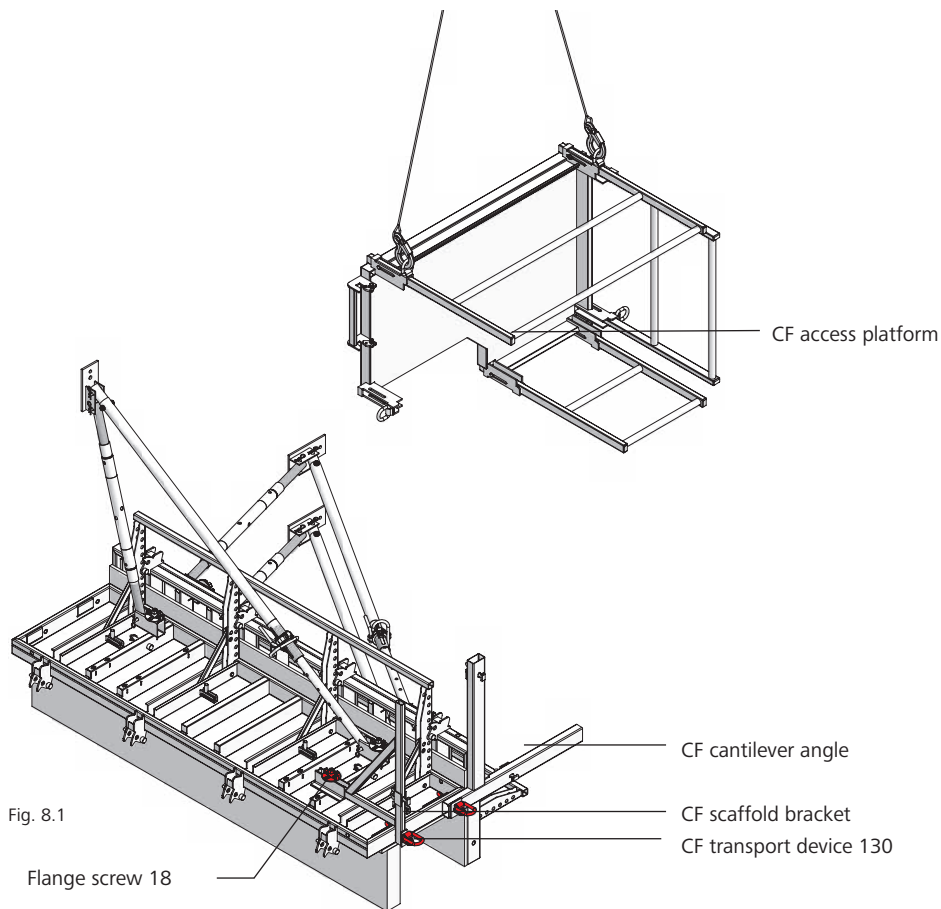

Fig. 8.1
3. Fold up the guardrailing of the access platform and attach a 2-rope crane sling to the crane eyes of the access platform (Fig. 8.1).